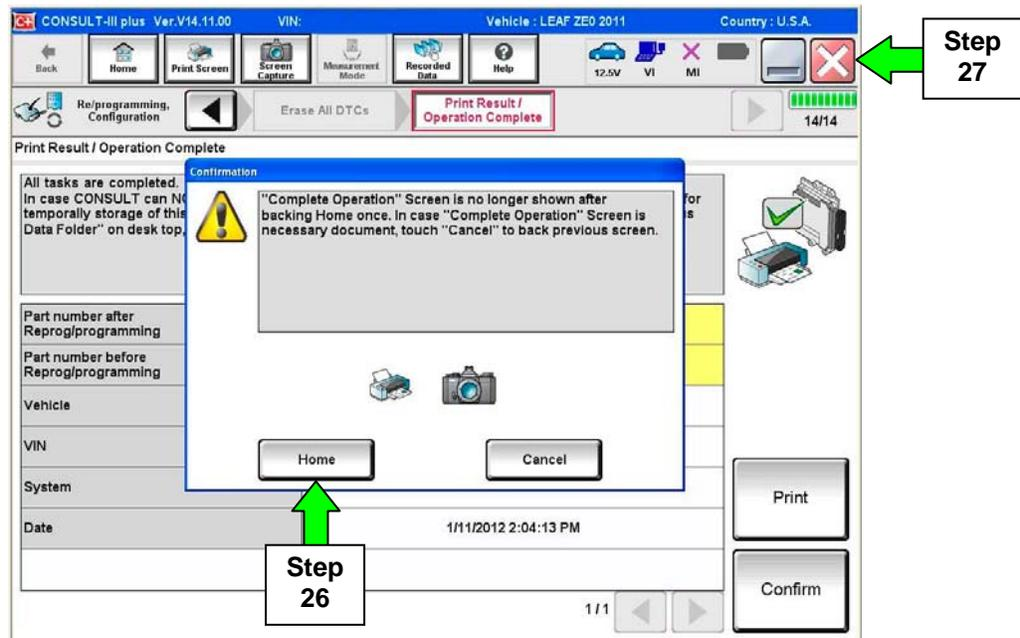

Figure 22
27. Close C-III plus by selecting “X” in Figure 22.